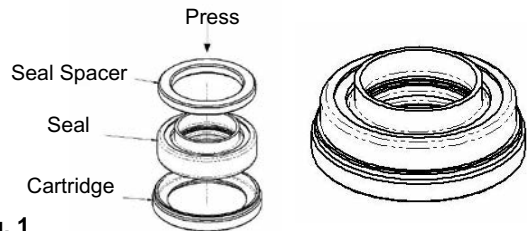

Fig. 1
- To assemble the seal cartridge, remove the old seal from the cartridge by pressing it out. The cartridge is reused by assembling the new seal into cartridge, ensuring the new seal is pressed in with the lip seal on the opposite side as shown in Fig.1.